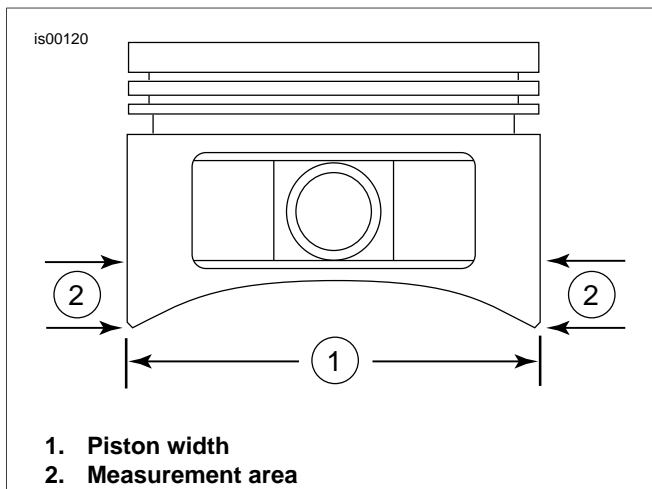

Figure 1. Piston Measurements
6. See Figure 1. Measure the piston width (1), 90 degrees horizontally from both sides of the pin piston pin hole and at 1/2 in. above (2) the lowest portion of the skirt above the chamfer.